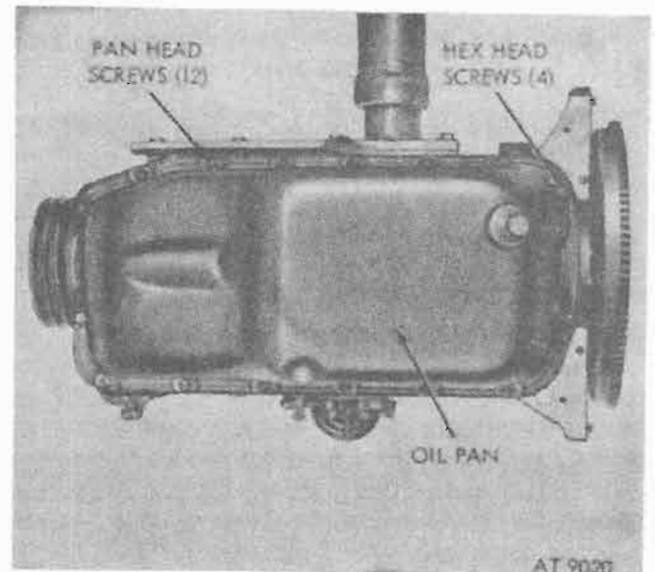

Figure 4-87. Oil pan.
b. **Oil Pan.** Remove four hex-head screws and washer assemblies with flat washer; also remove 12 slotted capscrews, lockwashers, and spring retainers securing oil pan to cylinder block and front cover. Remove oil pan from cylinder block (fig. 4-87).